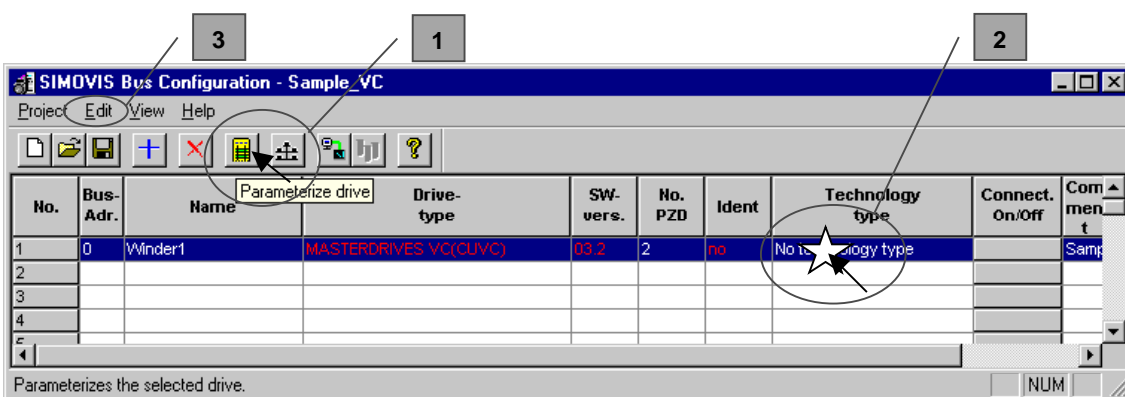

Fig. 5-21 Parameterizing a device
- ◆ Double-click on the device to be parameterized (Fig. 5-21 [2])
- ◆ Call-up on the toolbar *Parameterize drive* (Fig. 5-21 [1])
- ◆ Call-up with the menu command *Edit* → *Parameterize drive* (Fig. 5-21 [3])